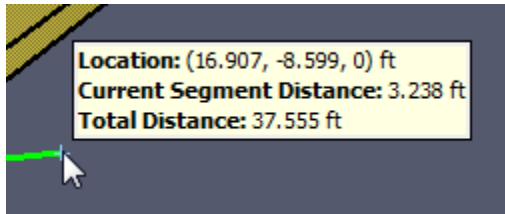

Figure 9:34. Information displayed by the measure tool
2. Either click several points to measure the total distance along a path or click-drag to measure a single distance between two points. As the cursor is moved, the current cursor location, total path length, and length of the most recent segment are displayed as shown in Figure 9:34.